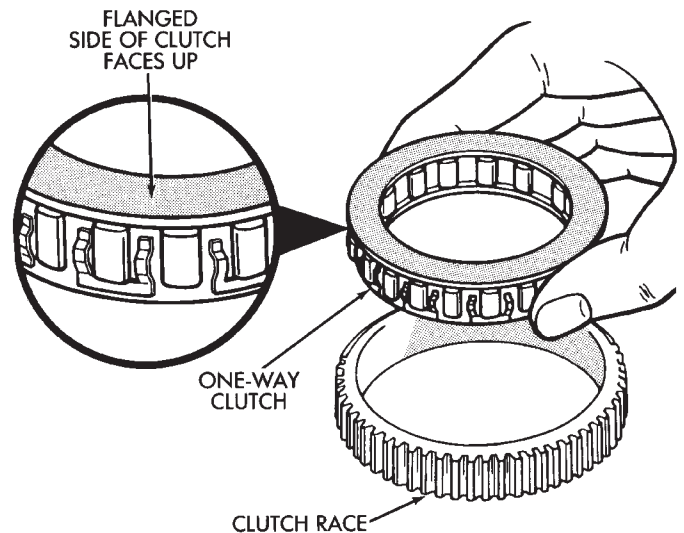

Fig. 21 Assembling One-Way Clutch And Race
- (2) Install one-way clutch in race (Fig. 21). Flanged side of clutch must face upward as shown.
- (3) Install assembled one-way clutch and outer race in planetary gear. Be sure flanged side of clutch is facing upward.
- (4) Install clutch pack retaining plate and snap ring in planetary gear.